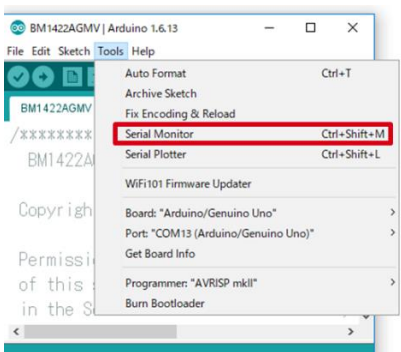

Figure 5. Tools Setting
4. Select Tools->Serial Monitor (Figure 5)